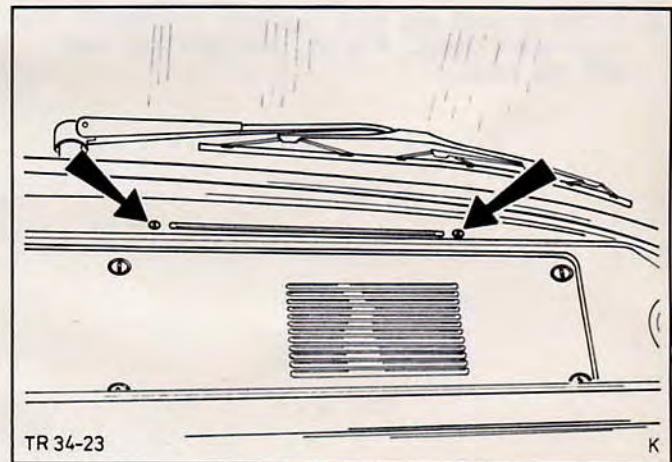

Fig.32. Remove demister nozzle.
1. Remove the two crosshead screws, Fig.32, and withdraw the nozzle complete with the hose.